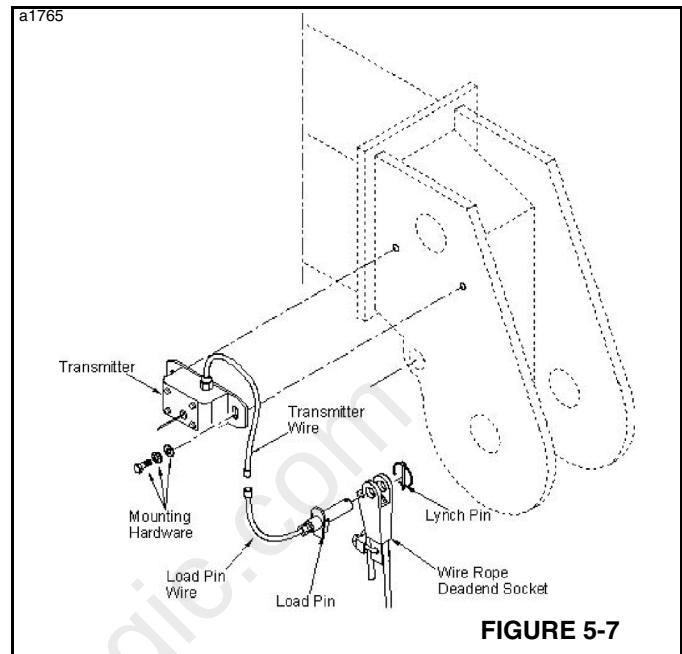

FIGURE 5-7
1. Disconnect the transmitter wire and load pin wire (Figure 5-7).